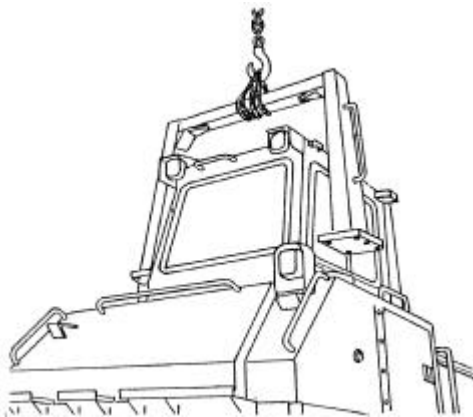
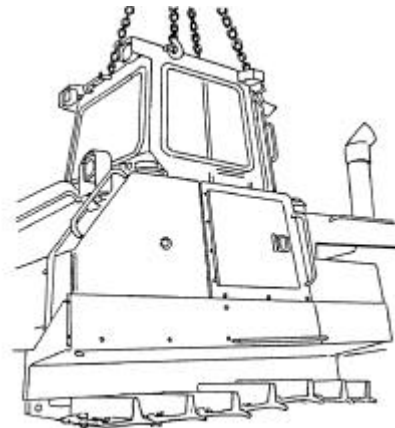
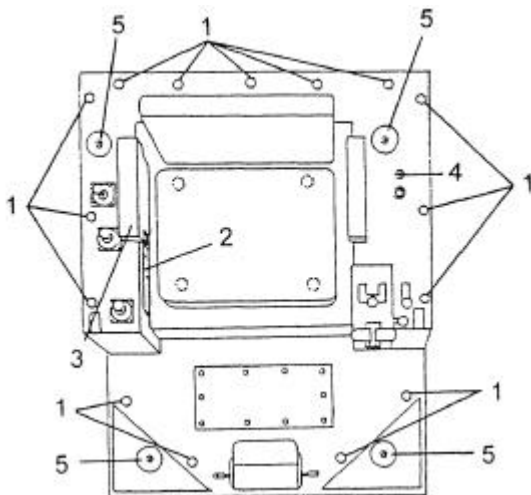

Fig. 6.5. Disassembly Shield ROPS
Fig. 6.6. Disassembly Cab.
Fig. 6.7. Platform
2. Unscrew ten bolts securing shield ROPS. Remove shield (Fig. 6.5). Disconnect cab panel electric connector (4, Fig. 6.7) from platform. Unscrew bolts (1, Fig. 6.7) securing the cab. Remove cab using a hoist (Fig. 6.6).